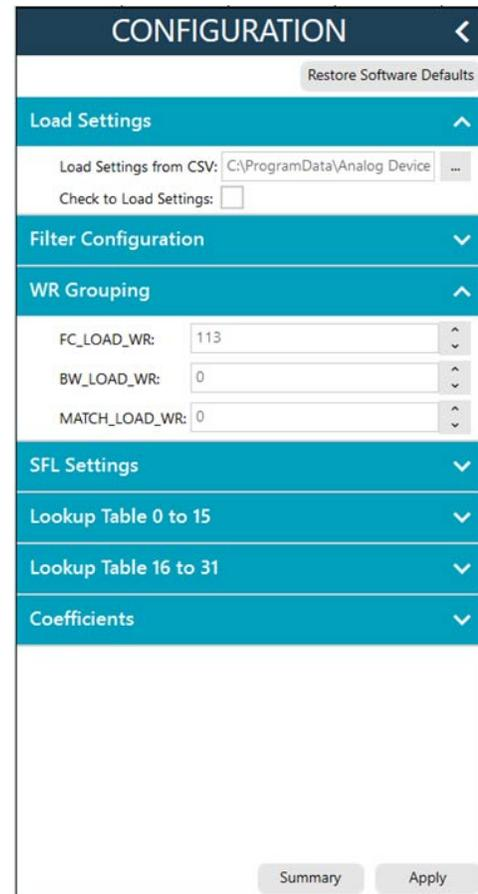

Figure 11. ADMV8502 CONFIGURATION Section
7. Use the **CONFIGURATION** section (see Figure 11) in the ACE software to initialize the chip. By default, the **ADMV8502_Coefficients_Bandwidth_Nominal.csv** file is loaded into this section. Click **Apply** to send the default settings to the chip and to allow the main diagram user controls to become editable.
3. Click the ... button next to **Load Settings from CSV** to select which .csv file to load (see Figure 11).